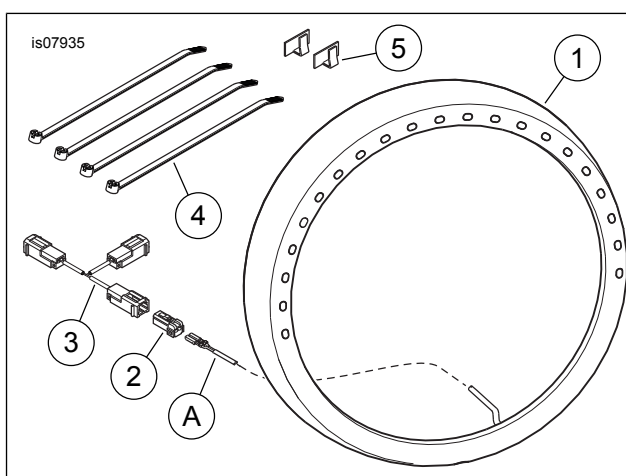

Figure 2. Service Parts, Electra Glo Trim Ring Kits for Seven Inch Headlamp
See Figure 2 and Table 1.
2. See Figure 2. Install the **new** Electra Glo trim ring (1) to the vehicle with the mounting screw from Step 1.
3. Route the trim ring wires (A) into the nacelle and out the left side of the frame.